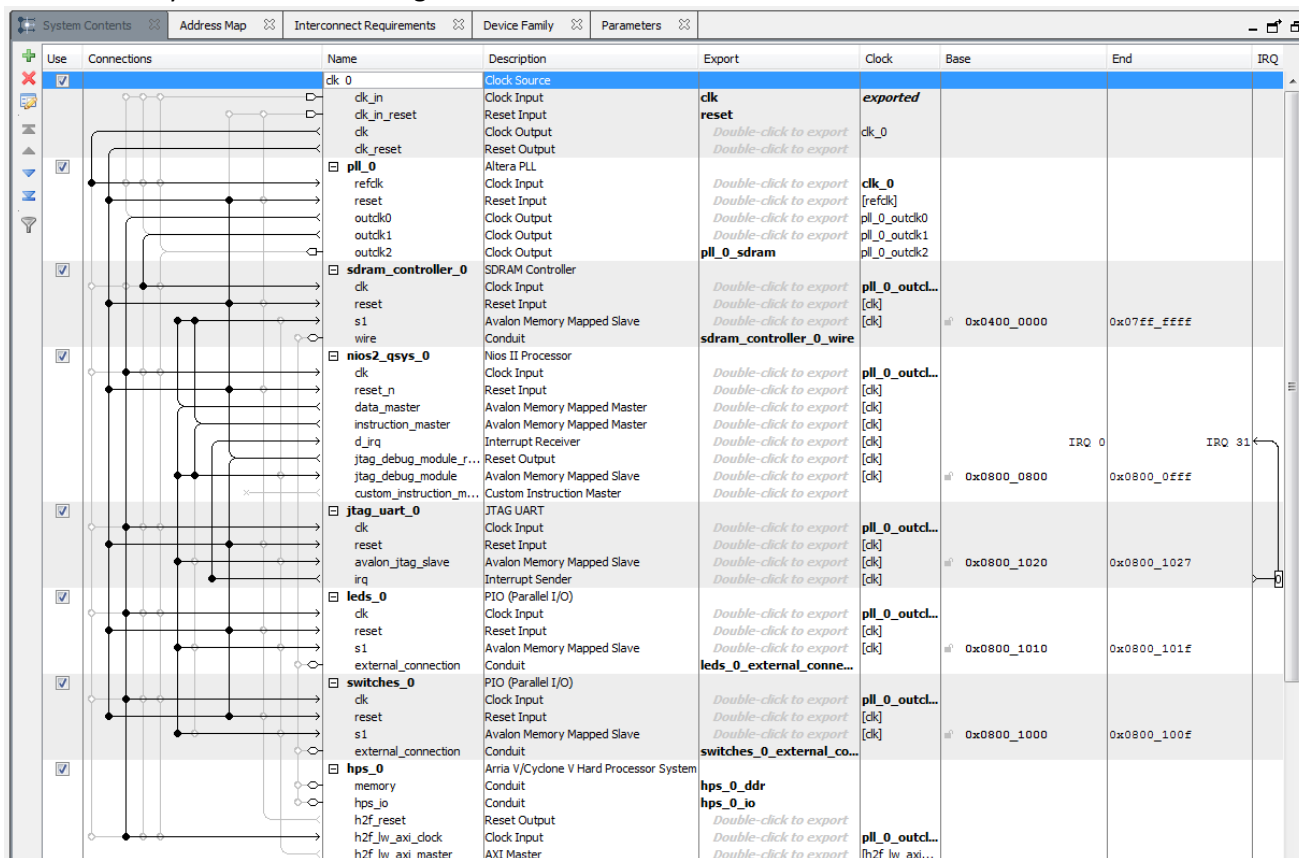

Figure 7-9. Adding the "Standalone" HPS to the System
23. Connect the system as shown in Figure 7-9 below: